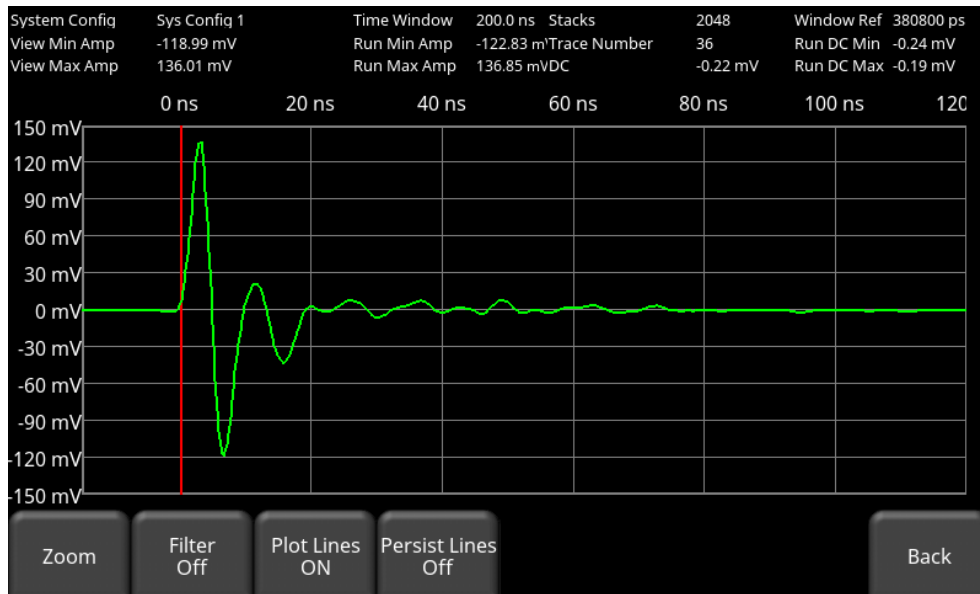
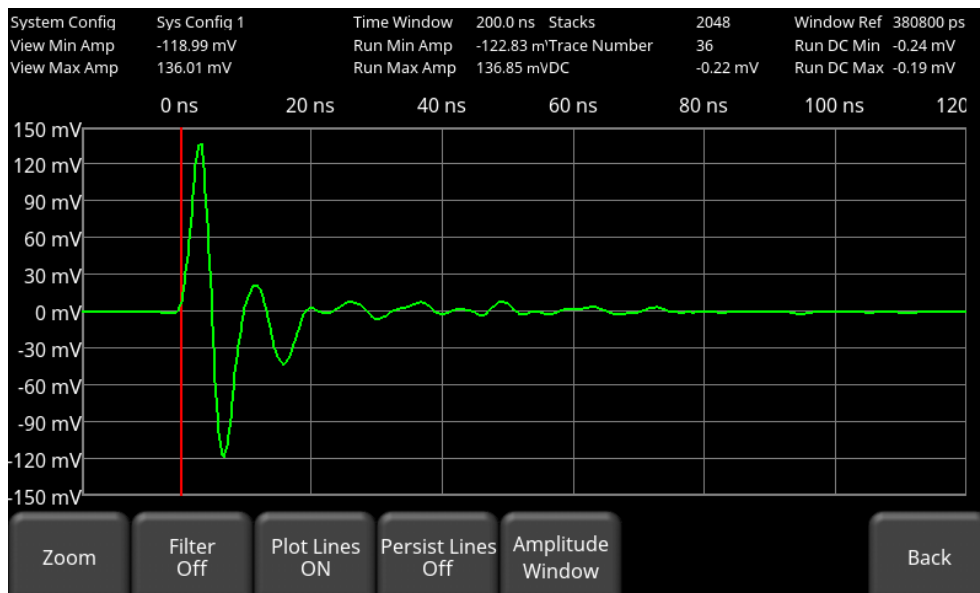

Figure 5-37: Advanced mode
Figure 5-38: Advanced mode when an Ultra Receiver is connected.
- Press **Advanced** to display more options on the bottom of the screen (Figure 5-37). If you have the Ultra Receiver, you will see the image in Figure 5-38.